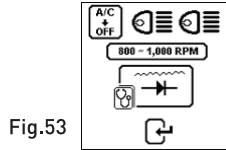

Fig.53
10. Continue from the previous test (either Fig. 50, 51 or 52); the analyser will automatically proceed to diode ripple test. The display will show as below (Fig.53).